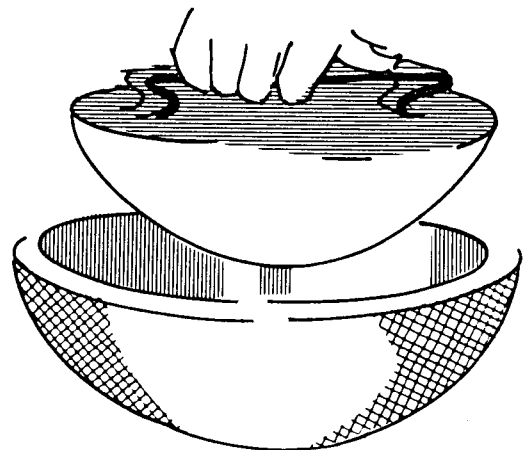

FIGURE 5 PLACING THE INSERT MOLD
2. Put the oiled insert mold into place and scrape off excess. See Figure 5.